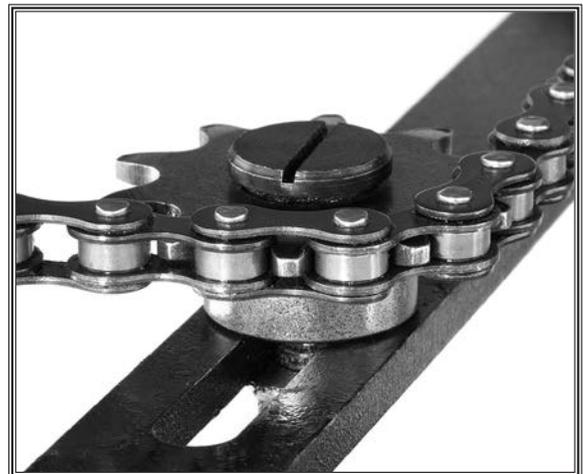

Figure 43. Chain tensioner sprocket.
5. Loosen the chain by loosening the hex nut on the bottom of the idler roller sprocket shown in **Figure 43**.